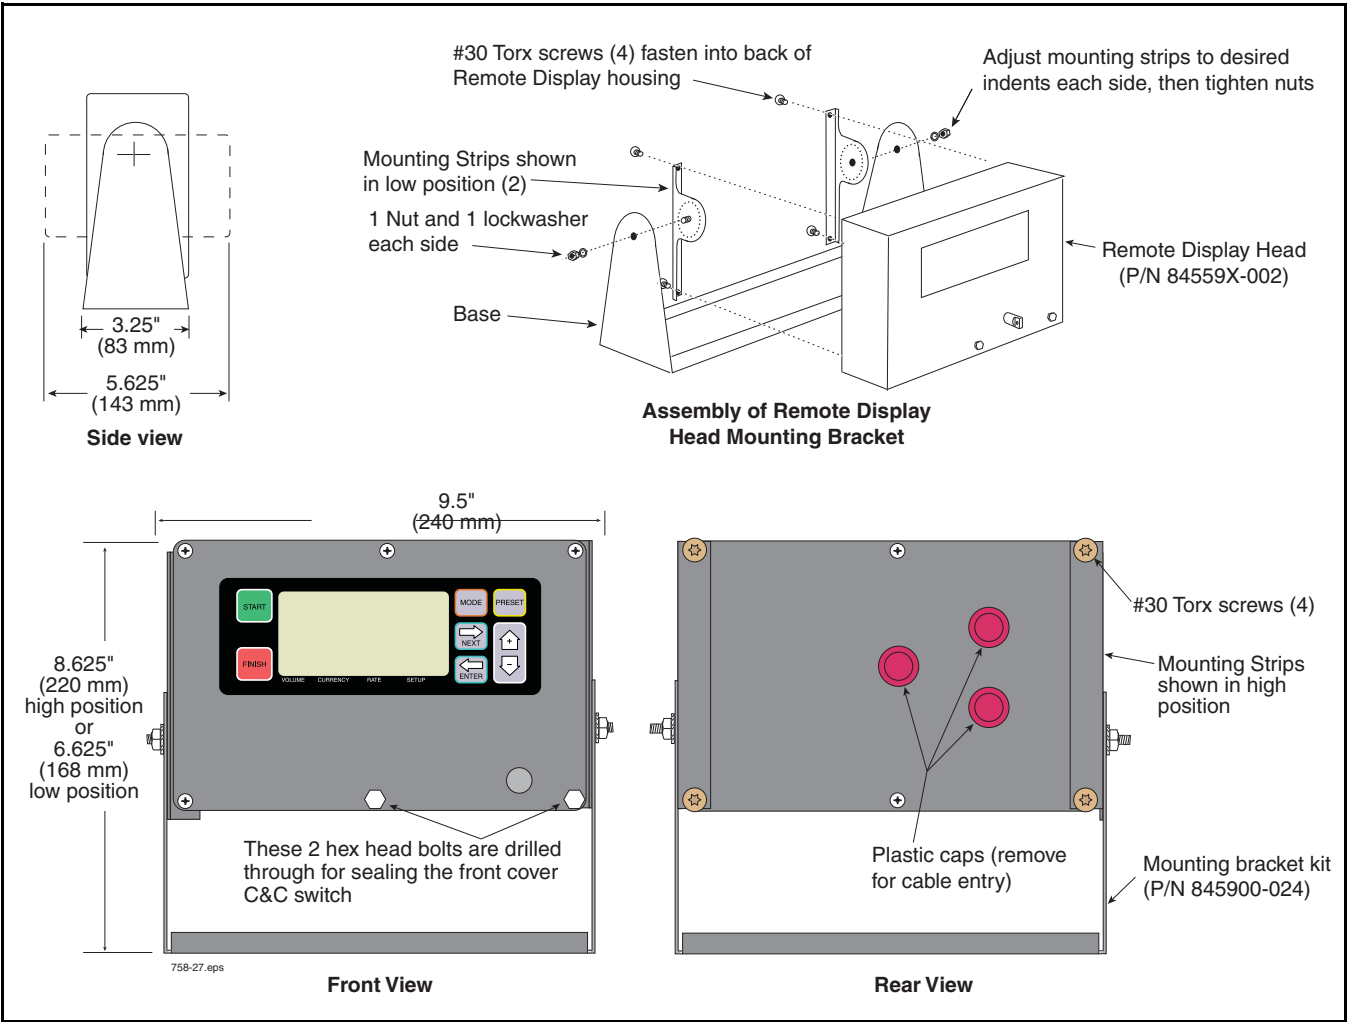
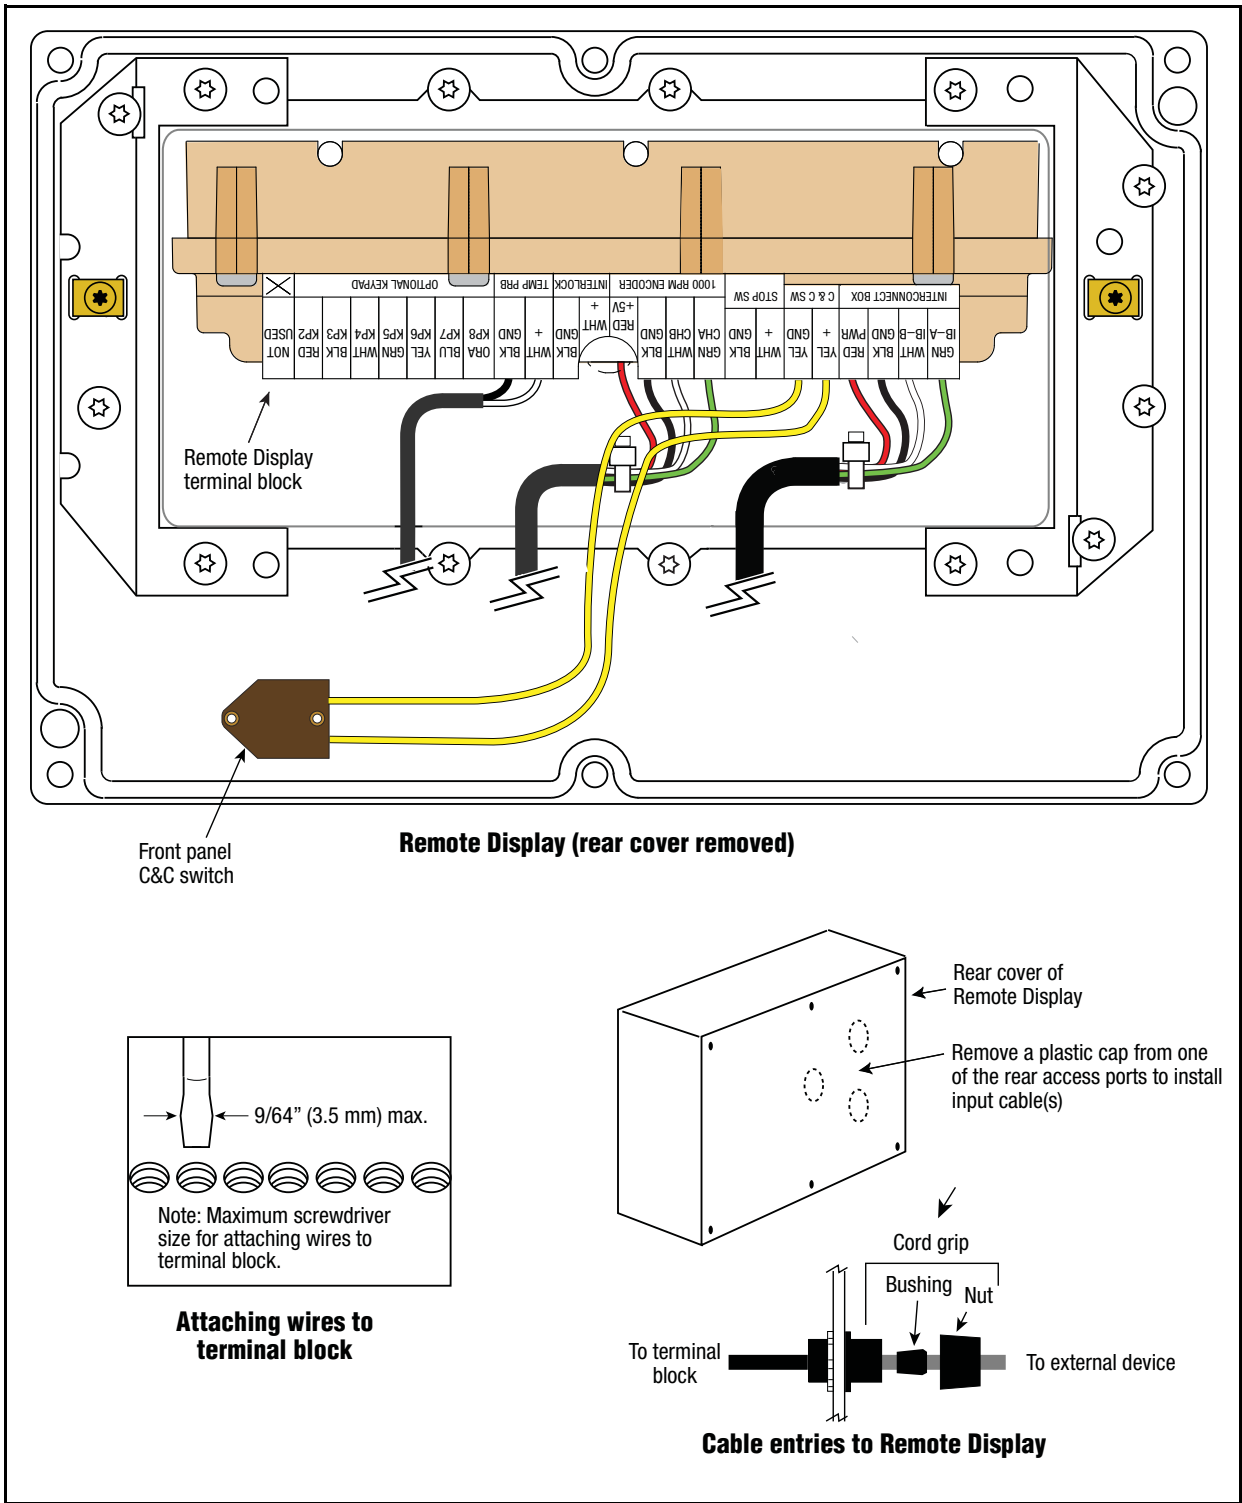

Figure 33. Remote Display Assembly
Figure 34. Remote Display Connections (Rear Cover Removed)
Figure 33 shows the Remote Display assembly and Figure 34 shows how to wire the display to the Interconnect Box. You can mount the display on a wall or dashboard of a truck, a wall in a building, or outside in a hazardous location. Use appropriate fasteners in any of the pre-drilled holes in the base of the optional bracket when attaching the bracket to the mounting surface. Adjust the angle of the display by loosening the side bolts and rotating the unit to the desired position.
Following wiring routing precautions and procedures discussed earlier (page 24) for the meter mounted Display Head, connect the Remote Display to the Interconnect Box. Wiring connections at the Remote Display are shown in Figure 34. Install optional cord grip fitting in rear of Remote Display for cable egress. Wiring connections at the IB are to the identical terminals of the unused Display Head terminal block.
2. A standard front panel C&C switch for the Remote Display Head (ref. Figure 34 on page 42).